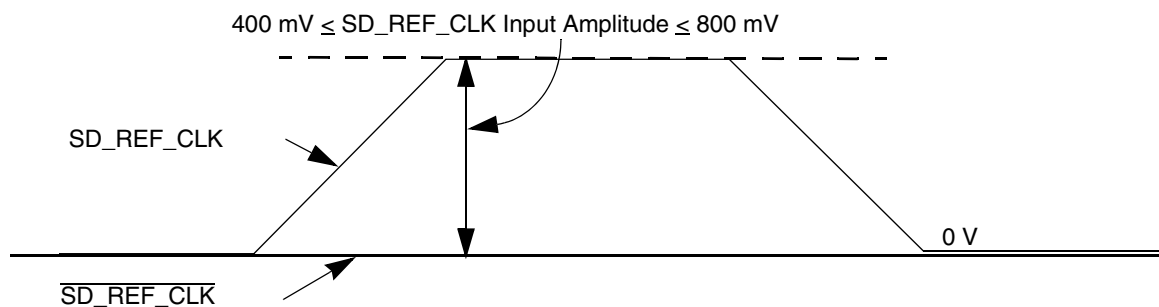

**Figure 19. Single-Ended Reference Clock Input DC Requirements**
- The SD\_REF\_CLK input average voltage must be between 200 and 400 mV. Figure 19 shows the SerDes reference clock input requirement for single-ended signaling mode.